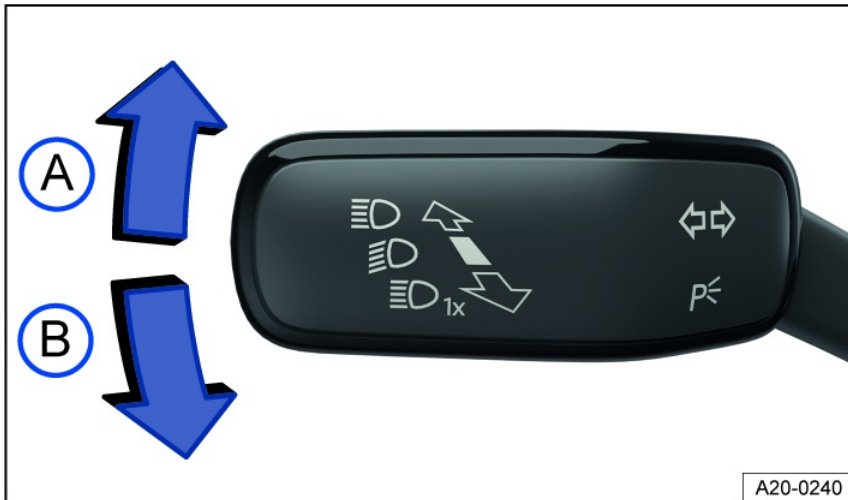

Fig. 90 On the left side of the steering column: turn signal and high beam lever.
2. Move the turn signal and high beam lever from the center position to the preferred position fig. 90.